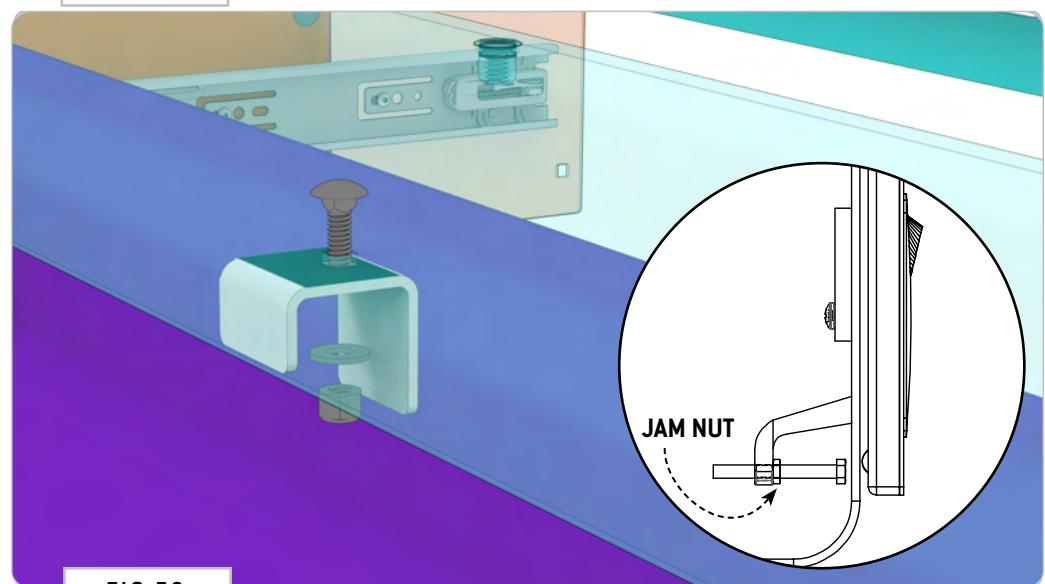

FIG 58
3.12 Attach Drawer Catch to Front Support: Slide out the Drawer to expose the mounting hole that will be used to attach the **Drawer Catch** to the **Front Support**. Secure in the orientation shown using **(1) 1/4-20 0.75 Square Neck Carriage Bolt, Flat Washer and Nylon Locknut** (FIG 58).